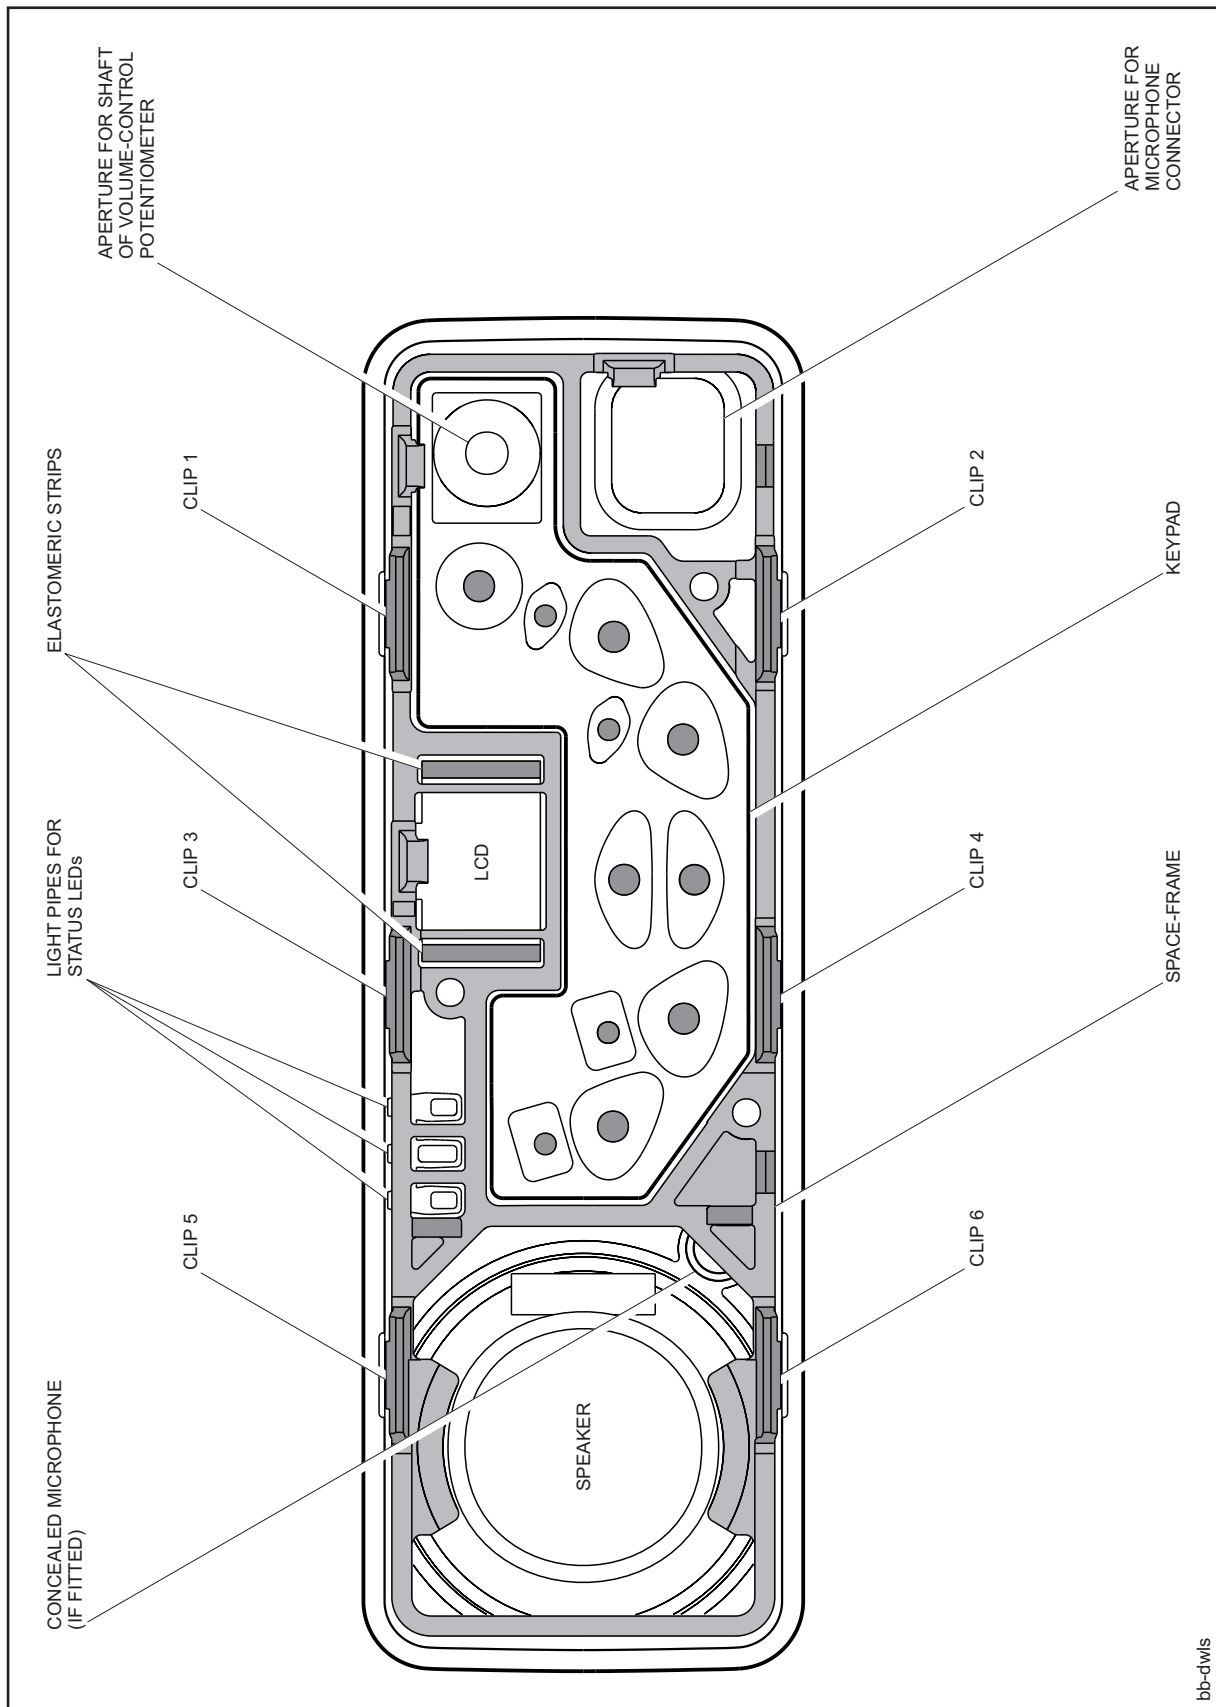

Figure 3.4 Plan view of the control head with the control-head board removed
To replace a damaged part, first disassemble the damaged front-panel assembly as well as a spare assembly from Spares kit 1. Proceed as follows. Refer to Figure 3.4.
1. Note the clips on the space-frame labelled clip 1 to clip 6 in Figure 3.4. These clips need to be released to remove the space-frame.